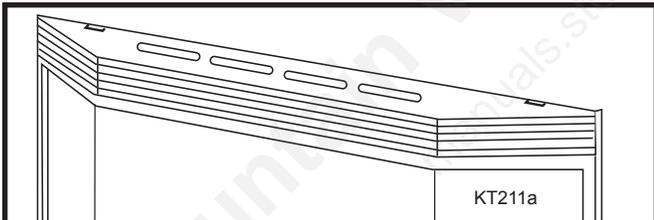

Fig. 67 Engage the slots in the upper grille top louvre with the upper tabs of the hanging brackets.
- Install top louvre by engaging the oblong holes with the upper tabs of the hanging brackets. (Fig. 67)